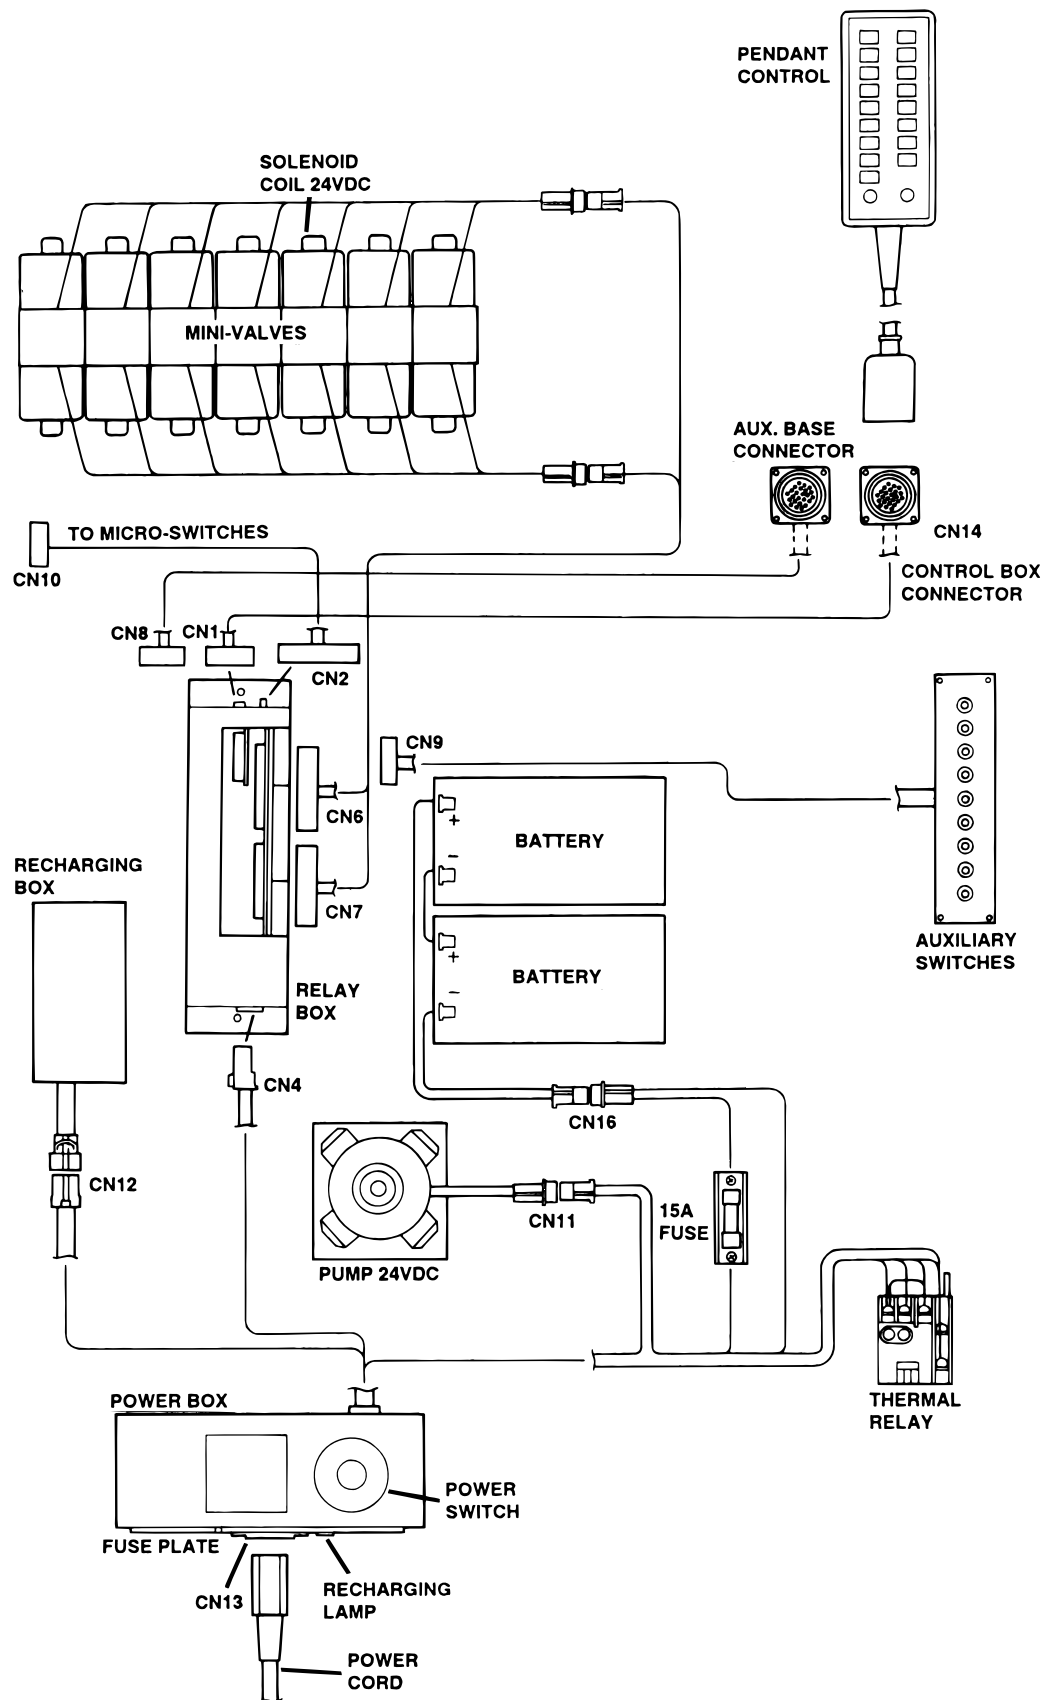

Figure 6-1. Electrical Circuit Block Diagram, Model 6500B
2. Disconnect connector CN12. See figure 6-1.